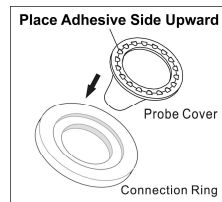

Figure 1
- 1) Place a new probe cover on the connection ring. (See Figure 1)